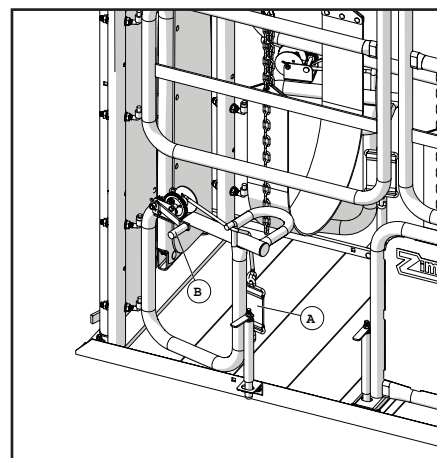

Figure 8: Front leg lifter
2. Attach the front leg lifter strap (a) around the front leg about 4" above the hoof (Figure 8).
3. Use the front leg lifter winch (b) to lift the desired leg into position (Figure 8).